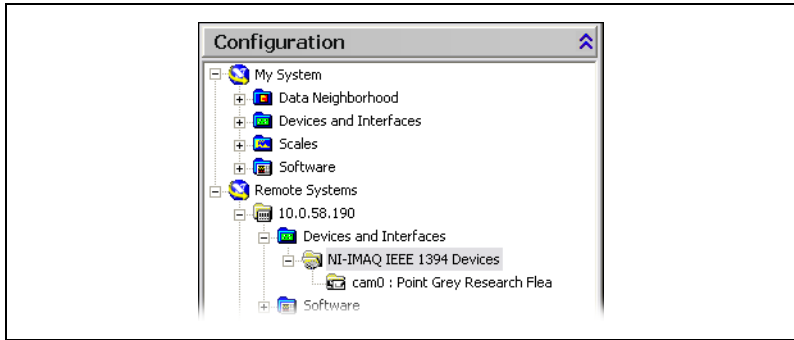

Figure 4. Viewing the Camera on the Remote System
9. Press the <F5> key to refresh the MAX configuration tree. Your IEEE 1394 camera should be listed in the **Remote Systems** list, as shown in Figure 4.